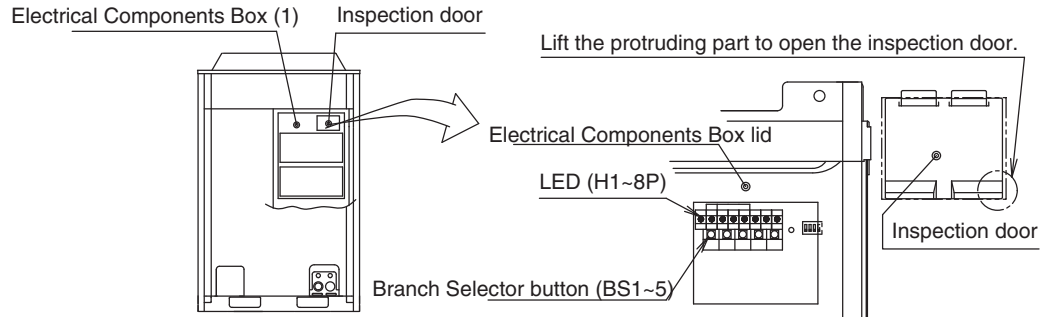

fig. 5
- For performing the automatic refrigerant charging operation, the Branch Selector button on the PCB (A1) of outdoor unit are used. (See figure 5.)